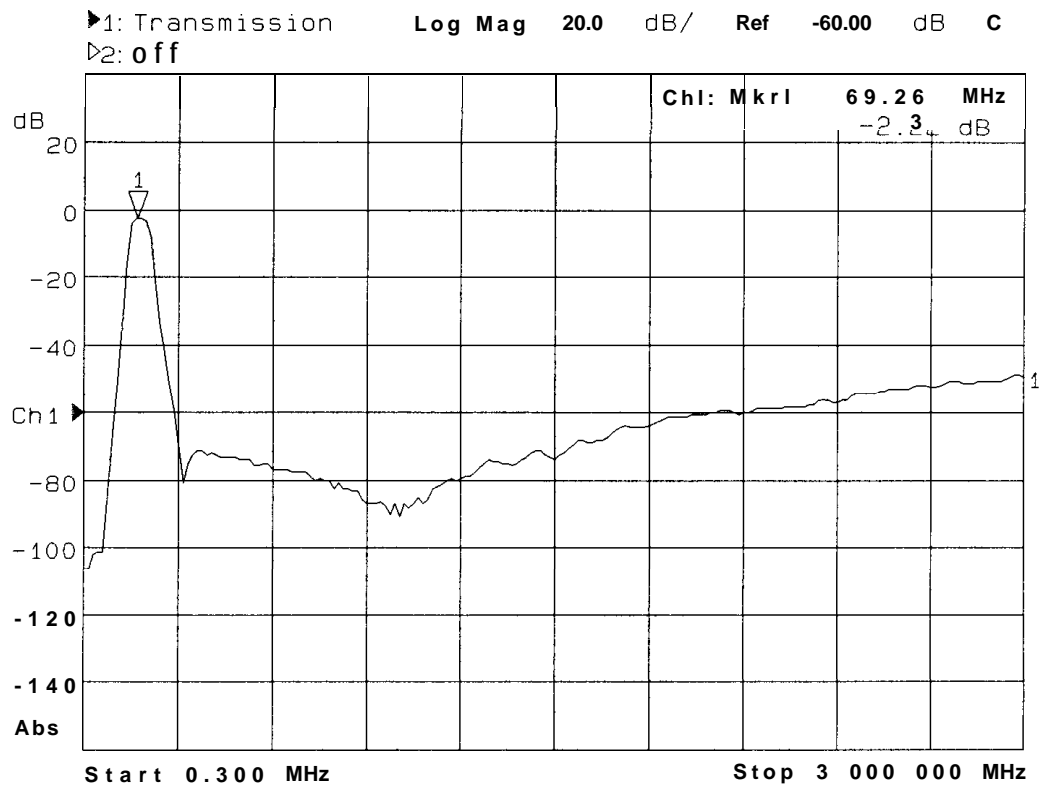

Figure 3-6. Example of a Transmission Measurement Display
2. To interpret the transmission measurement, refer to Figure 3-6 or your analyzer's display if you are making this measurement on your instrument.
4. Note the marker readout in Figure 3-6 provides the frequency and amplitude of the minimum insertion loss point.